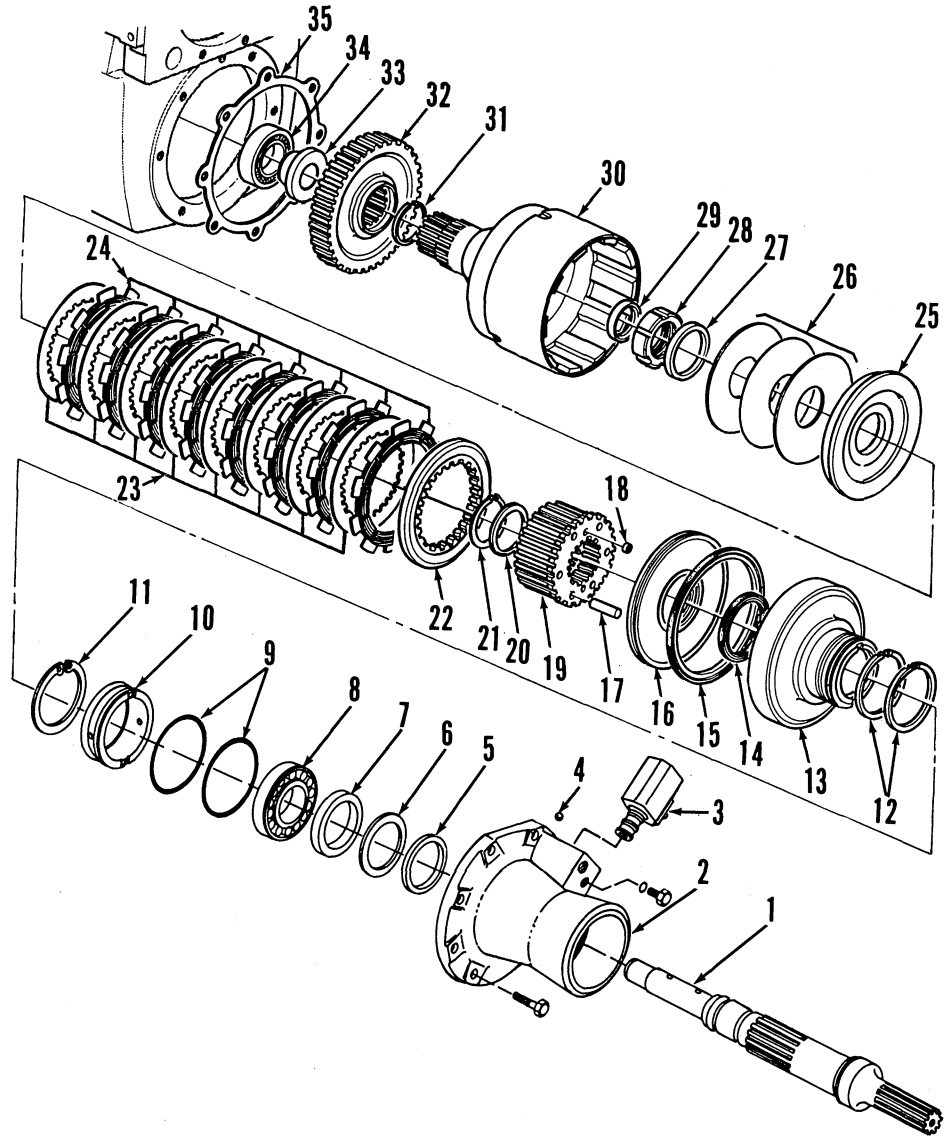
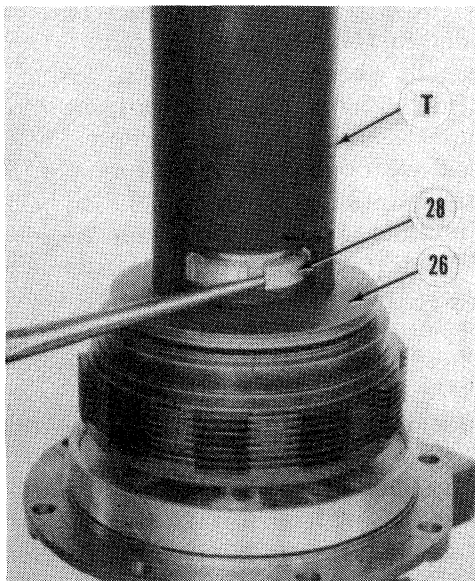
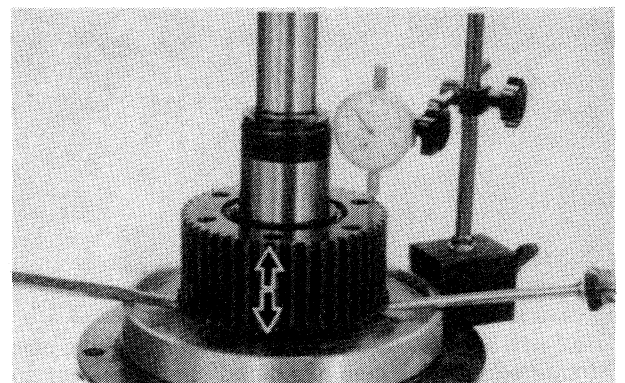
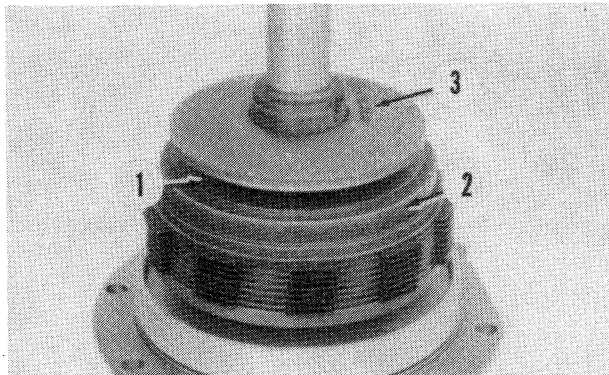

Fig. 7—Exploded view of MFWD clutch assembly used on tractors equipped with Quad-Range transmission.
Fig. 9—Use horseshoe shaped tool (T) and a press to compress Belleville springs.
Fig. 10—Use dial indicator to check end play of clutch hub.
Fig. 11—Install Belleville springs so outer diameter of first spring (1) is against pressure plate (2) and spring with measurement (3) is on top.
dowels and a floor jack (clutch weighs about 90 pounds [41 kg]), then withdraw clutch assembly. Remove clutch drum (30—Fig. 7) from clutch housing if it does not come out with clutch assembly.
To disassemble, remove washer (29) and straighten locking tabs on nut (28). Use a suitable horseshoe shaped tool (T—Fig. 9) to compress Belleville springs (26), then unscrew nut (28—Fig. 7), washer (27), springs (26), pressure plate (25), clutch discs (24) and plates (23) and plate (22). Remove snap ring (21), washer (20) and hub (19) with pins (17). Pry piston housing (13) from quill (2). Tap piston housing on a block of wood to remove piston (16). Remove seal rings (12) and piston seals (14 and 15). Remove shaft retaining ring (11), then tap end of clutch shaft (1) on a block of wood to remove from housing. Remove bearing (8) and bushing (10). Remove oil seal (7), spacer (6), washer (5) and "O" rings (9).
To reassemble clutch, reverse the disassembly procedure while noting the following items. Install bushing (10) into housing (2) with beveled side first. Make certain clutch shaft (1) is completely seated in housing. Assemble inner and outer seals (14 and 15) so grooved side of seals faces offset side of piston (16). Assemble piston housing (13), piston, hub (19), washer (20) and snap ring (21), then use a dial indicator (Fig. 10) to check end play of hub (19). If necessary, adjust end play by changing thickness of washer (20—Fig. 7) to obtain 0.008 inch (0.2 mm) end play. Install pressure plate (22) with beveled edge toward piston. Install discs (24) and plates (23) alternately, starting with a disc and ending with a plate. Install clutch release pins (17) into hub (19). Install rear pressure plate (25) with offset side toward clutch pack. Assemble Belleville springs alternately so outer diameter of first spring (1—Fig. 11) is against pressure plate (2) and spring with measurement (3) is located on top as shown. Use drum (30—Fig. 7) to align clutch disc tangs, then remove drum making sure tangs remain aligned.
Belleville spring pack height must be adjusted as follows: Measure and record the thickness of nut (28) and washer (27). Then, compress springs with a horseshoe shaped tool and thread nut onto shaft until locking ring on nut is about even with notches on clutch shaft. Remove compression tool and position a straightedge (C—Fig. 12) across machined surface of nut. Measure distance between straightedge and machined surface of pressure plate. Subtract the nut and washer thickness from this dimension. The result should equal the dimension marked on the top spring (Fig. 11). Note that dimension on spring is given in millimeters and a decimal point should be put
Illustrations for Fig. 7, Fig. 9 and Fig. 10 reproduced by permission of Deere & Company. Copyright Deere & Company.
Free play between clutch shaft and clutch drum is adjusted by changing thickness of spacer washer (29—Fig. 7). If clutch shaft, drum or clutch housing is renewed, free play must be adjusted. When renewing any other parts, original washer should be installed. To adjust free play to recommended 0.020 inch (0.5 mm) dimension, proceed as follows: Install thinnest washer available on shaft. Washers are available in thicknesses from 0.270 inch (6.8 mm) to 0.380 inch (9.6 mm). Shape a piece of soft lead wire with diameter of 0.118 inch (3 mm) into a ring and position on top of spacer washer. Install clutch drum. Reinstall clutch assembly using a new gasket and tighten mounting cap screws to 80 ft.-lbs. (108 N·m). Then, remove clutch assembly and measure compressed thickness of lead wire. To calculate required